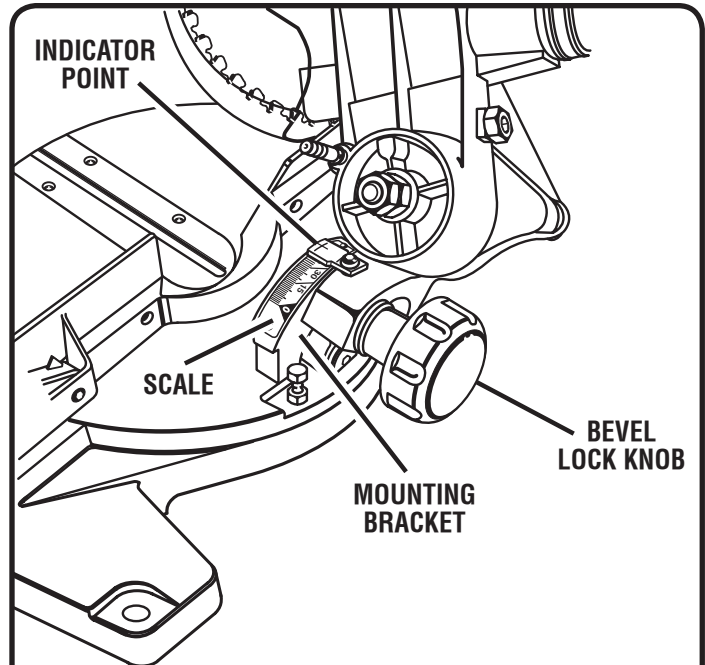

Fig. 35
See Figures 35 - 36.
- Grasp the stock firmly with one hand and secure it against the fence. Use the optional work clamp or a C-clamp to secure the workpiece when possible. *See Figure 35.*
- Slowly lower the blade into and through the workpiece. *See Figures 35 - 36.*